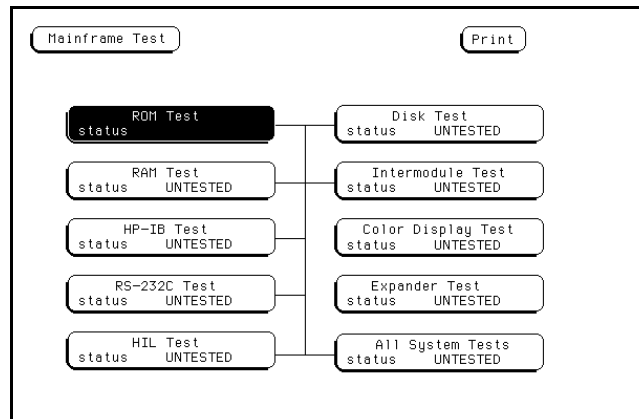

Figure 6-10. Mainframe Test Menu
1. Access the Mainframe Test menu, as described in "Accessing the Mainframe Test System," in this section. See figure 6-10.